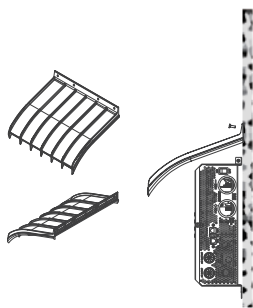

Figure 15 Drip shields
3. Fasten the screws through the holes in the drip shield into the wall. See Figure 15.